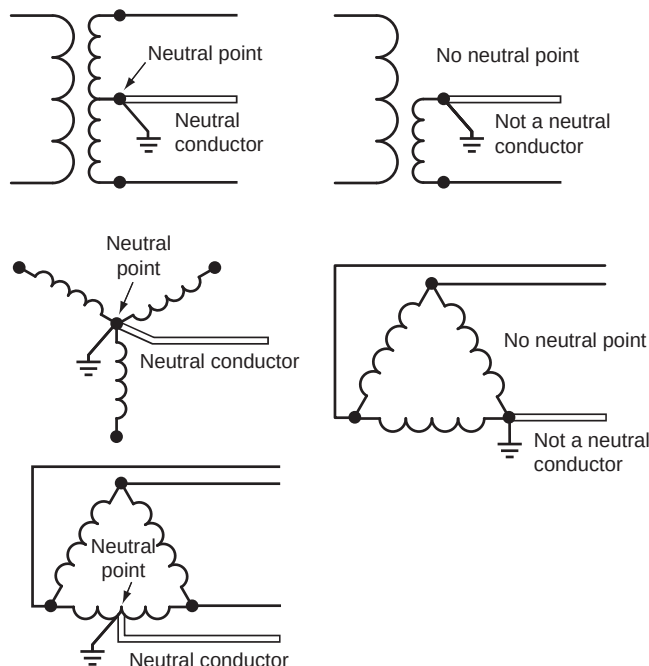

FIGURE 5-19 Neutral point and neutral conductors. (Delmar/Cengage Learning)
- **Neutral Conductor.** *The conductor connected to the neutral point of a system that is intended to carry current under normal conditions.* See Figure 5-19.*
- **Neutral Point.** *The common point on a wye connection in a polyphase system; midpoint on a single-phase, 3-wire system; midpoint of a single-phase portion of a 3-phase delta system; or midpoint of a 3-wire, direct-current system.* See Figure 5-19.*